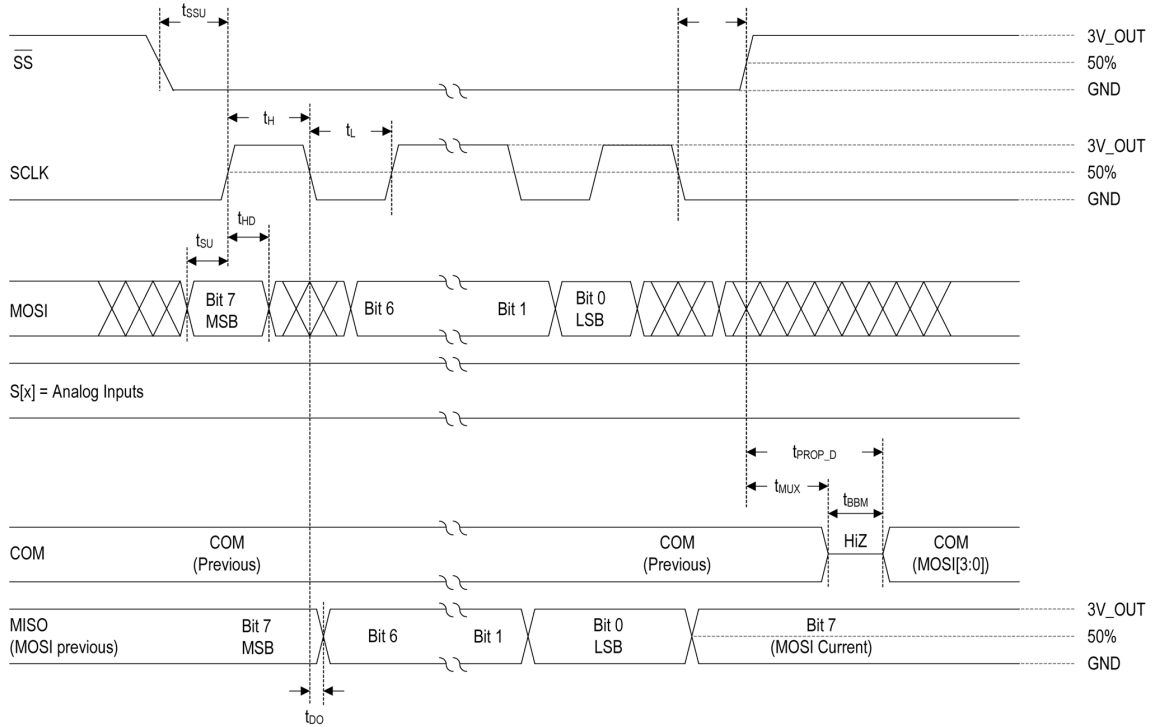

Figure 7. UT16MX112 Timing Diagram
1) See figure 7, Multiplexer Serial Timing (UT16MX112), for detailed timing.